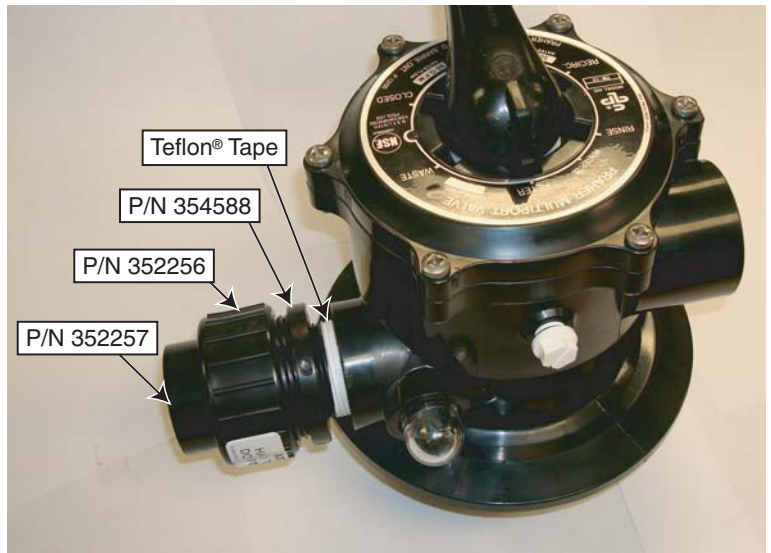

Figure 6.
8. To install unions, see Figure 6.